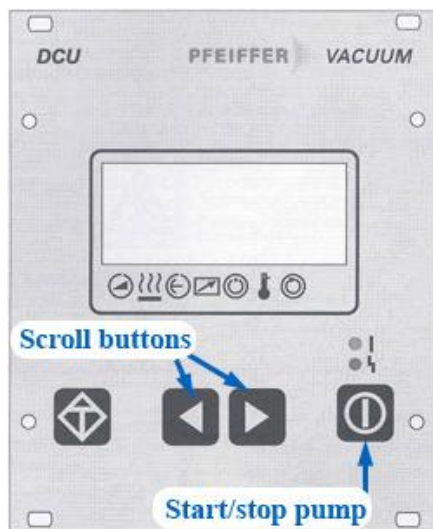

Figure 14 - Pfeiffer TMP controls
Press the button with the circle symbol on the front face of the pump to start (bottom right of Figure 14).
Use the Scroll buttons (left or right) shown on Figure 14 to go through the menus, until you find the display “**Act rotspd**” (Actual Rotation Speed). Watch **Act rotspd** increase slowly. When it reaches 1500 Hz (or is equal to **Set RotSpd**, if different than 1500 Hz), continue to the next step.
4. Stop the TMP by pressing the button on the front face (as shown in Figure 14) and allow it to spin down to Actual Rotation Speed (“Act Rotspd” indicator) of 0 Hz. This takes a few minutes.
3. Stop the TMP by pressing the button on the front face (as shown in Figure 14) and allow it to spin down to Actual Rotation Speed (“Act Rotspd” indicator) of 0 Hz. This takes a few minutes.